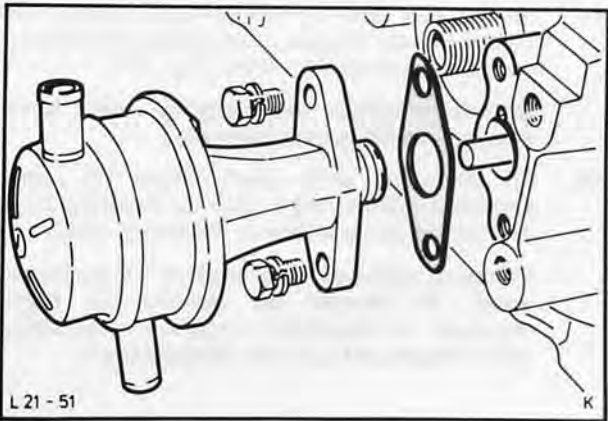

Fig. 110. Fit fuel pump
48. Insert fuel pump tappet in bore and fit fuel pump, Fig. 110.